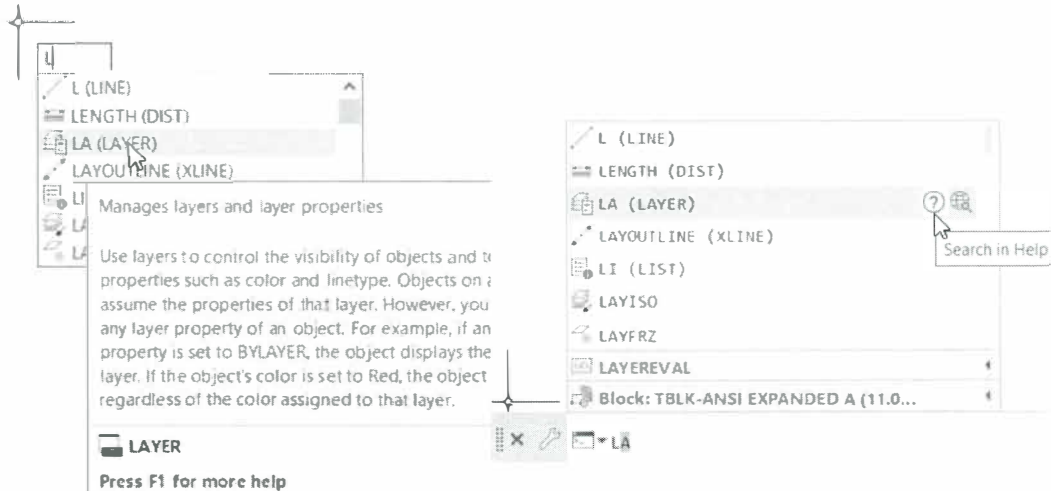

Figure 1–19
- The Autocomplete list in the Command line also provides the **Search in Help** or **Search on Internet** icons, as shown in the right of Figure 1–19.